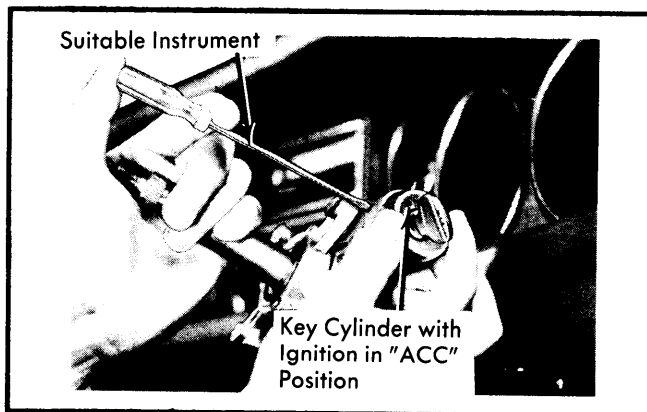

Fig. 2 Disengaging Key Cylinder from Position on Mainshaft
5) Put ignition key in "ACC" position. Use a small pointed tool to press down stop pin on side of cylinder to free the mechanism. Pull cylinder from housing. (Fig. 2)